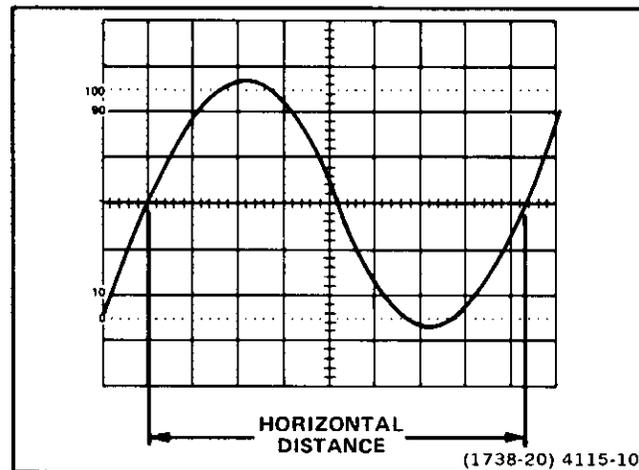

Figure 17. Time duration.
5. Position the display to place the time-measurement points on the center horizontal graticule line (see Figure 17).
EXAMPLE: The distance between the time-measurement points is 8 divisions (see Figure 17), and the A SEC/DIV switch is set to 2 ms. A magnification factor of 1 is used.
EXAMPLE: The signal in Figure 17 has a time duration of 16.6 ms.